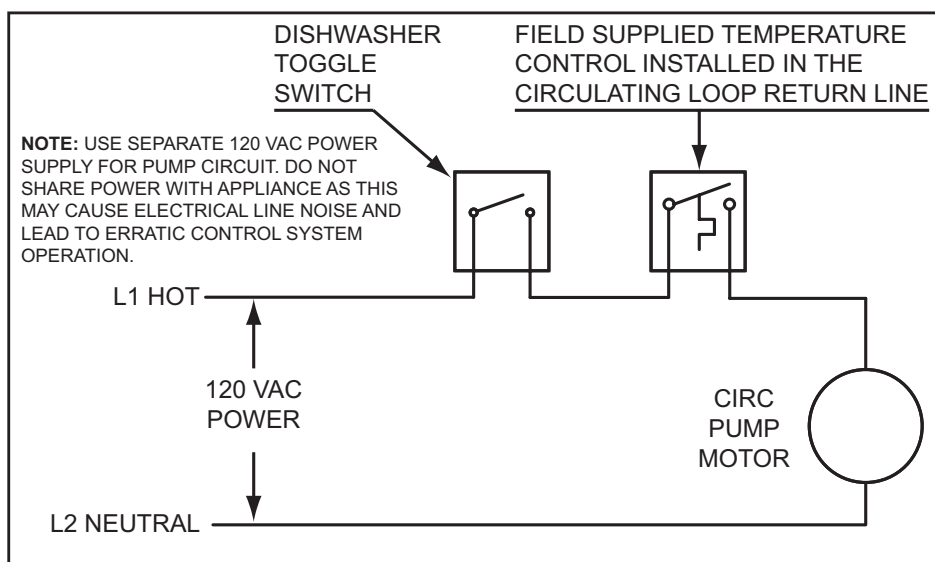

Figure 67. Recirculating Loop with Dish Washer and Toggle Switch
- 7. If a pump is being installed in a recirculation loop between the water heater and a commercial dishwasher wire according to *Figure 67* (page 77).
7. If a pump is being installed in a recirculation loop between the water heater and a commercial dishwasher wire according to *Figure 67* (page 77).